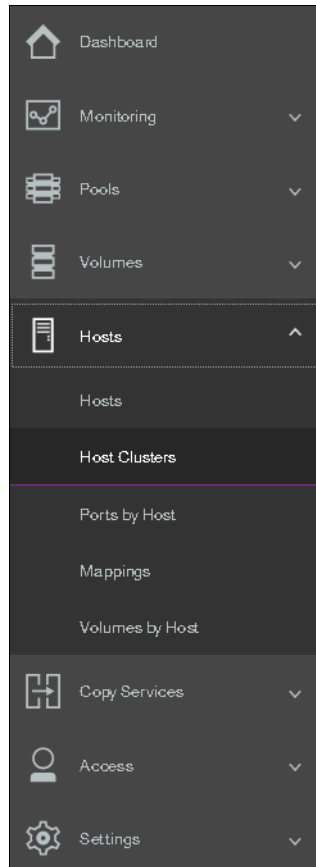

Figure 5-73 Host Clusters
1. Click **Hosts** → **Hosts** from the main panel as shown in Figure 5-73 on page 247.